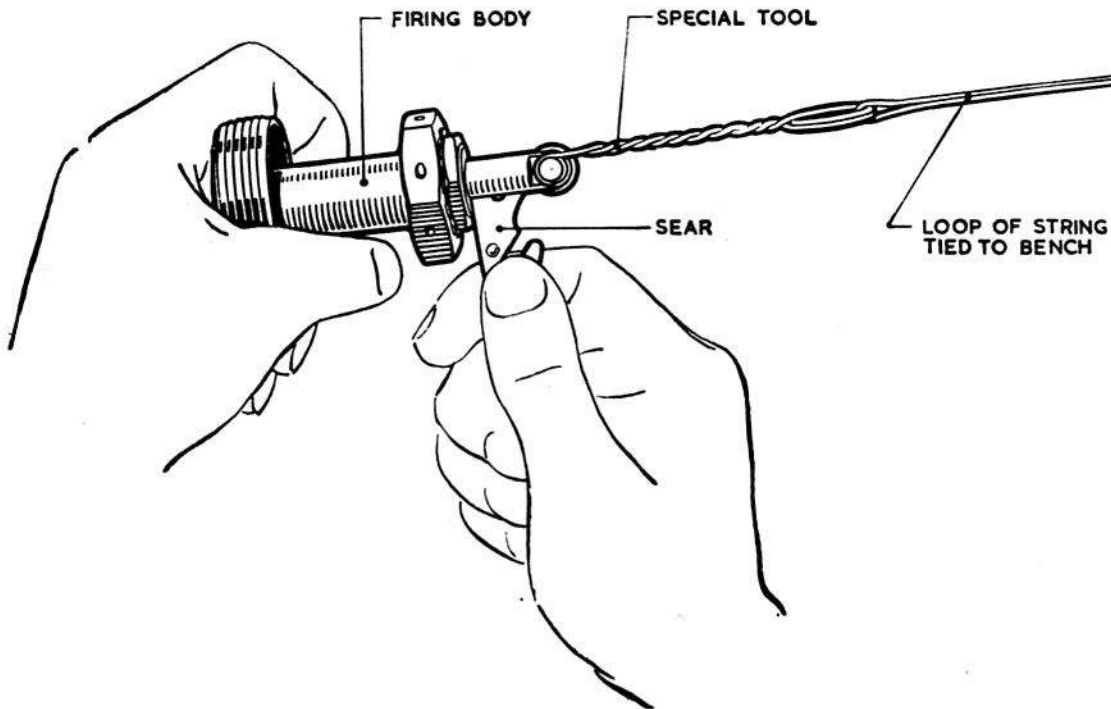
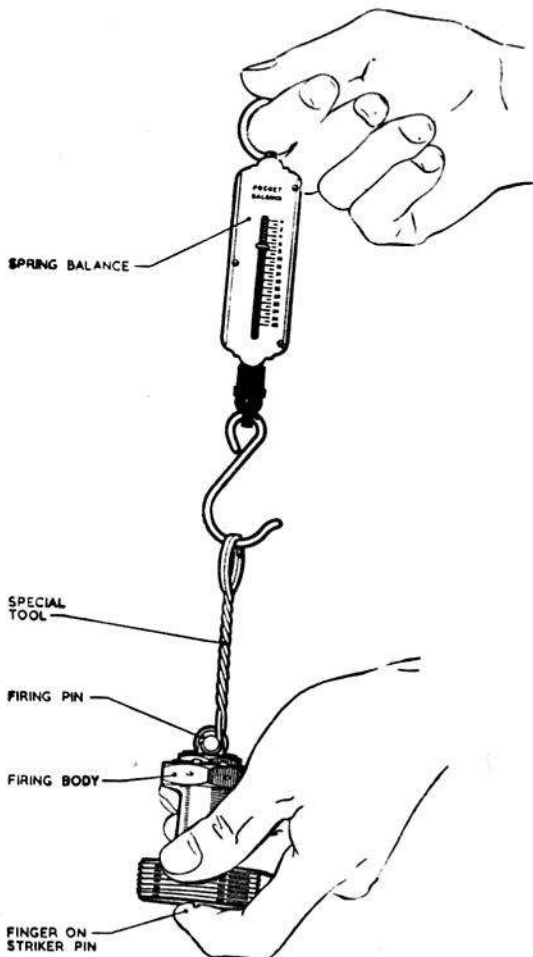

Fig. 8. Lifting firing pin with special tool
Fig. 9. Testing firing spring
- (3) Lift the firing pin with the special tool (fig. 8) and check that the firing sear moves freely in the slot, and that the firing pin moves freely throughout its stroke. Remove the sear and check the initial compression of the firing spring by spring balance as shown in fig. 9. The firing pin should not start to move until 7 lb. is registered. The initial movement of the firing pin can be detected by holding the finger over the projecting end of the striker pin.